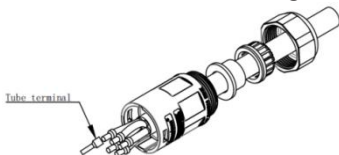

Figure 6-11-3 Crimping tube terminal
- 3) Stripped cable crimping tube terminal, as shown in Figure 6-11-3.